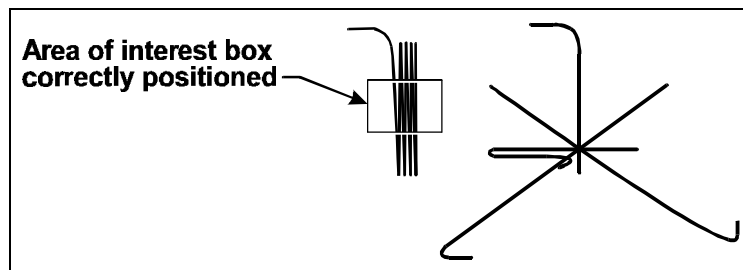

Figure 5-35. Area of interest box
4. Press the Enter key on the system keyboard to display the yellow area of interest box (Figure 5-35) on the video monitor.
5. Using the arrow keys, position the yellow area of interest box over the vertical lines on the left side of the focusing image (Figure 5-35).